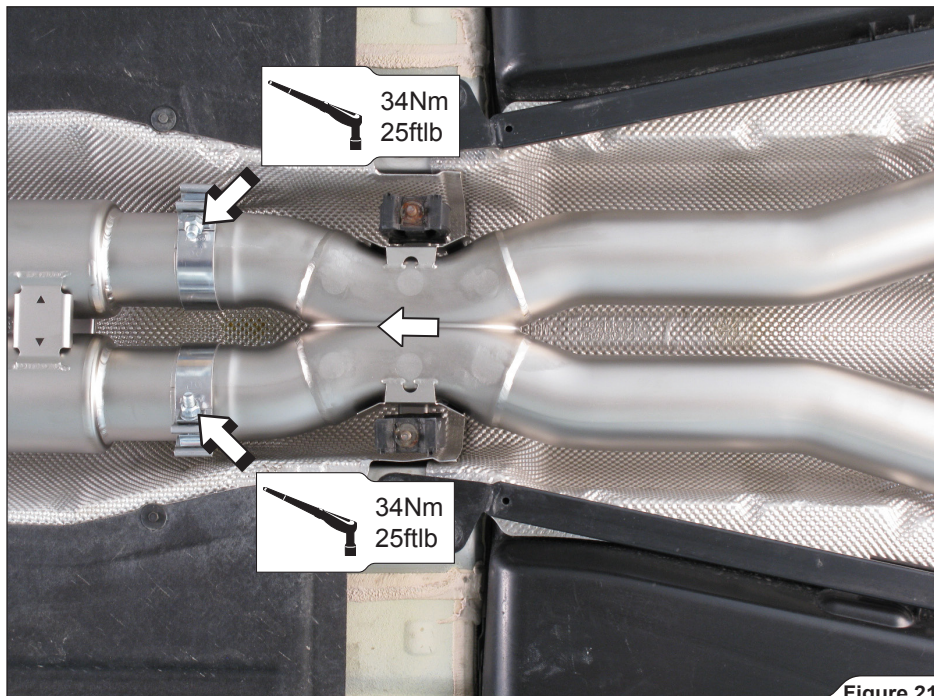

Figure 21
5. Slide the collector all the way onto the link pipes and tighten the clamps (**Figure 21**).